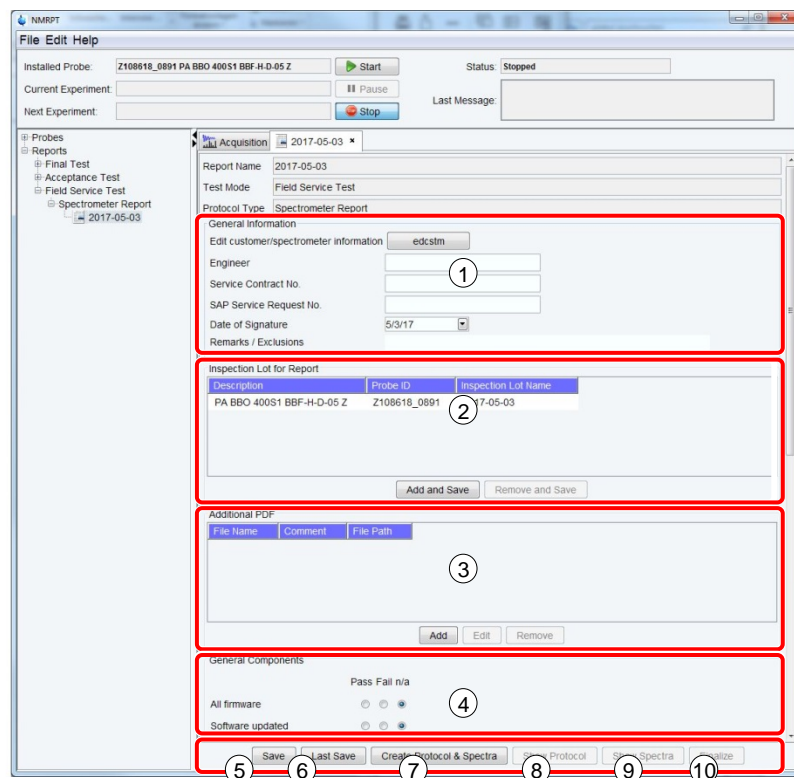

Figure 5-90: Report tab – Field Service Test Spectrometer
### Field Service Test Report Tab – General Sections (Figure 5-90)
In General Information section (Figure 5-90 (1)) click **edcstm** to open the Customer / System Setup dialog of *TopSpin*. In this dialog enter at least all information marked as required. Save all changes before closing the dialog.
In **Engineer** field of the Report tab (Figure 5-90) enter the name of the engineer responsible for the Field Service Test. Enter the **Service Contract No.** and the **SAP Service Request No.** in the corresponding text fields. Select the **Date of Signature** from the dropdown calendar. Remarks can be added to the report filling the **Remarks / Exclusions** text field.
In case of Spectrometer and Accessories Reports multiple Inspection Lots can be included to a report. The Inspection Lots are listed in a table (Figure 5-90 (2)) providing the **Description**, the **Probe ID** and the **Inspection Lot Name** in columns. To remove an Inspection Lot from the report, select an Inspection Lot in the table and click **Remove** and **Save** button in Inspection Lot for Report section (Figure 5-90 (2)). Click **Add and Save** button in Inspection Lot for Report section (Figure 5-90 (2)) to add further Inspection Lots. The Add Inspection Lot dialog (Figure 5-93) opens.
**Additional PDF** documents can be included in the report. These documents are listed in **Additional PDF** section (Figure 5-90 (3)) of Report tab. Click **Add** to open a document browser to select files from hard disk. To add a comment to a file, enter the text into the cell in Comment column of the PDF list item. Select an Additional PDF list item and click **Remove** to remove the PDF from report.
### Field Service Test Report Tab – Checklist Sections (Figure 5-90 (4))
## Field Service Test Report Tab – Button Panel (Figure 5-90)